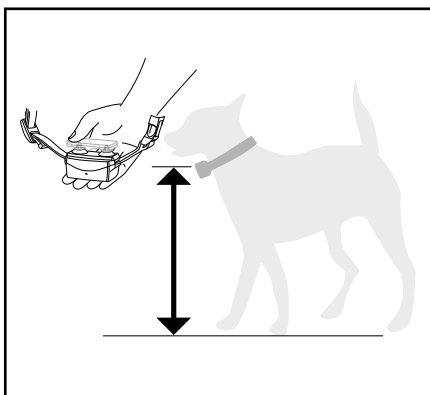

figure 22
- Slowly bring the Receiver Collar near the Boundary Wire at your pet's neck level with probes facing up (fig. 22). If the system is working correctly you will hear a Warning Tone. Continue toward the Boundary Wire until you see the Test Light flash (fig. 23). If you do not hear the Warning Tone or see the flash you should review the previous directions.